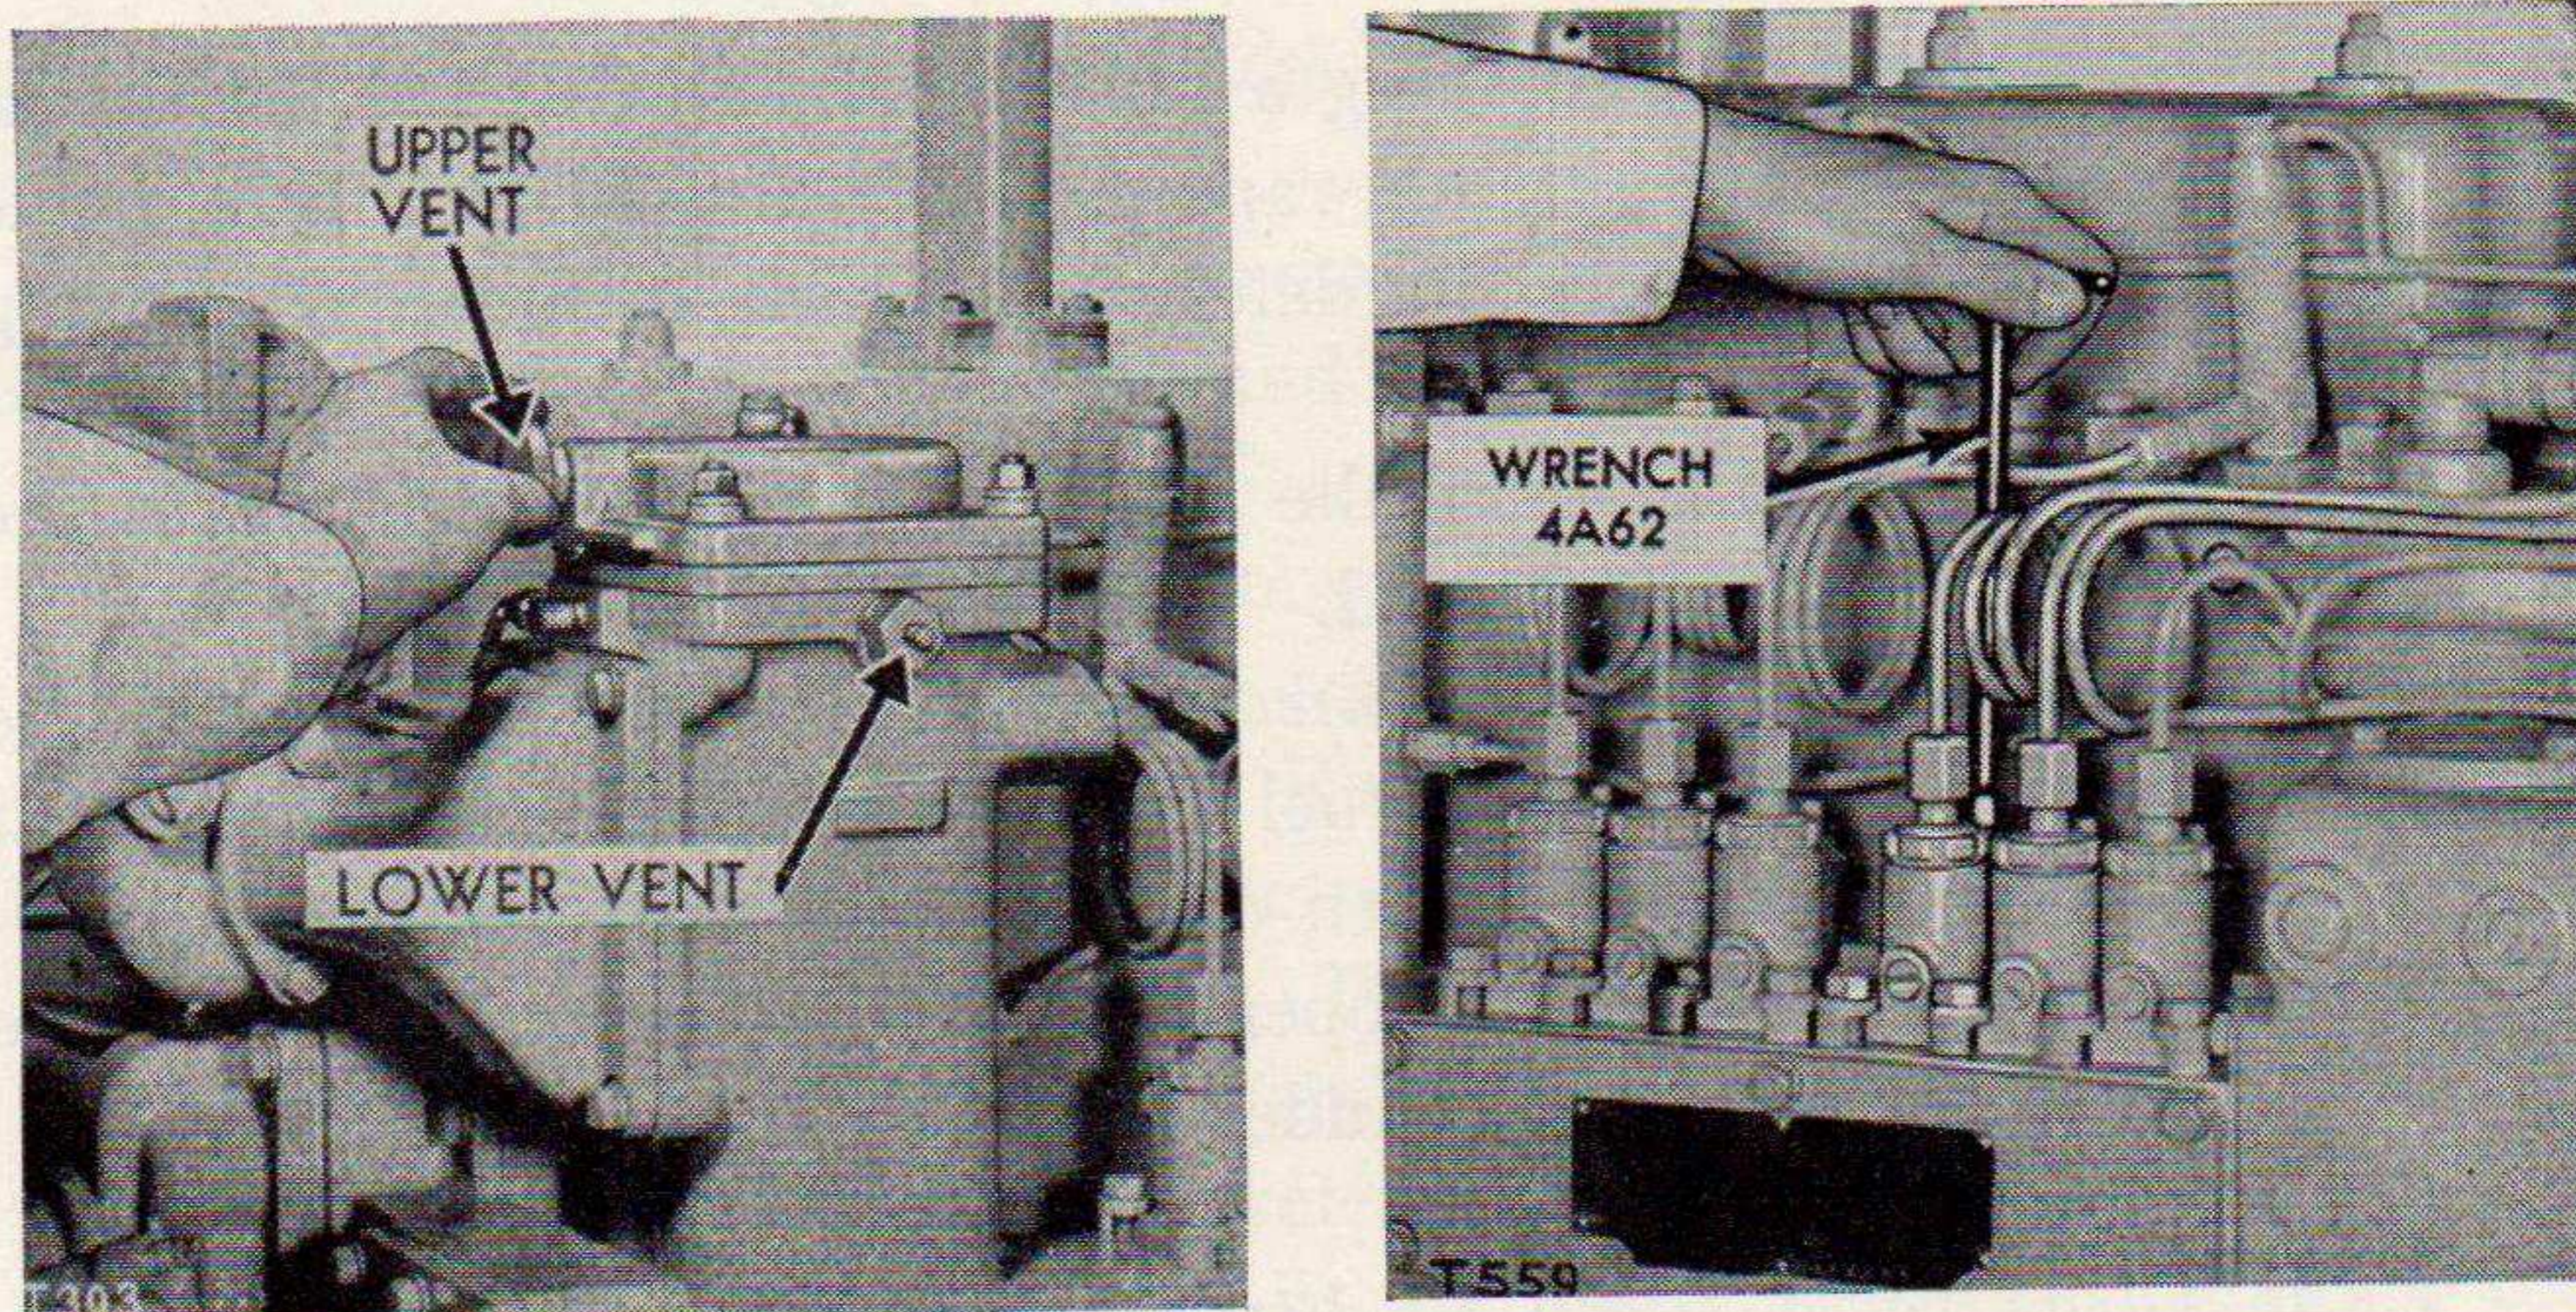

Figure 83. Priming fuel system.
b. **PRIMING PROCEDURE.** (See fig. 83.)
- (1) *Make sure main fuel line valve is open.*
- (2) *Shut off throttle.* Place the Diesel engine throttle in the "SHUT OFF" position.
- (3) *Place compression release lever in "START" position.*
- (4) *Open lower vent valve.* Using the vent wrench 4A62, open the lower fuel housing vent valve.